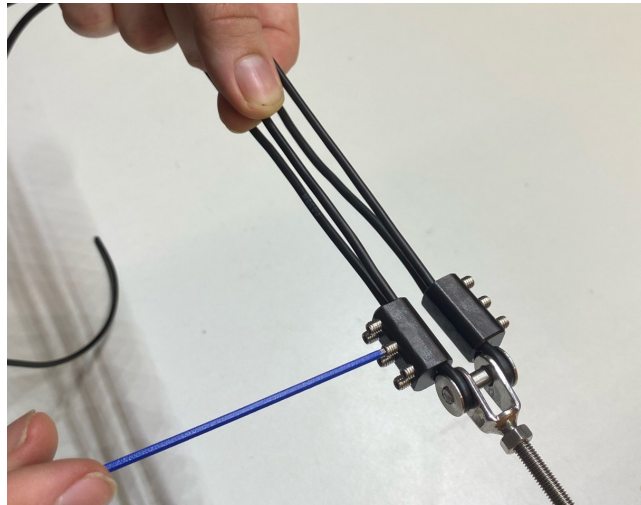

Fig 5.1 Hand tighten grub screws on each fixing block to secure the cabling.
5. Starting with the middle grub screws, screw down the grub screws in the fixing blocks to secure cables in position (Fig 5.1).